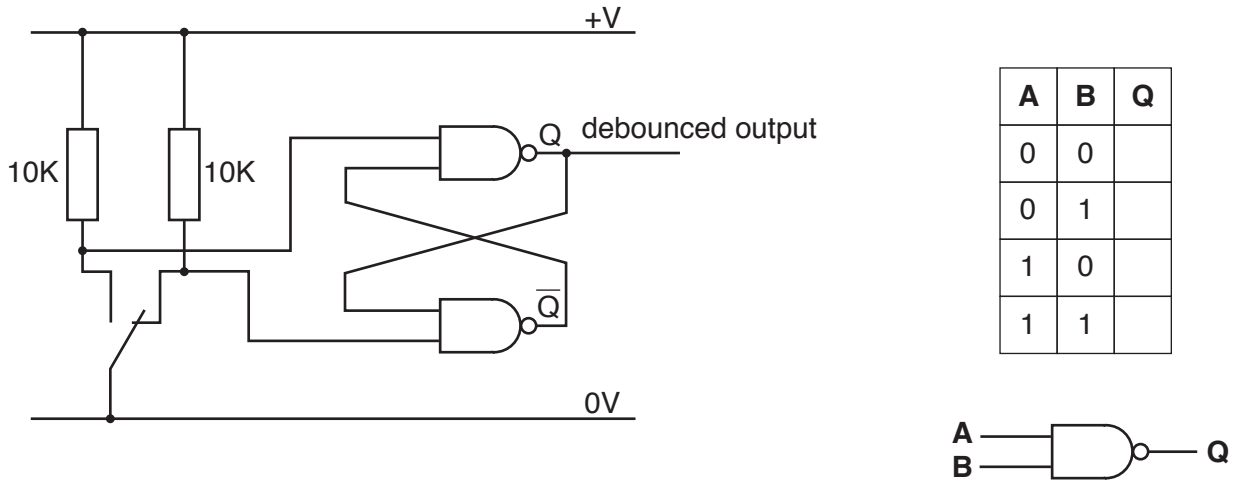
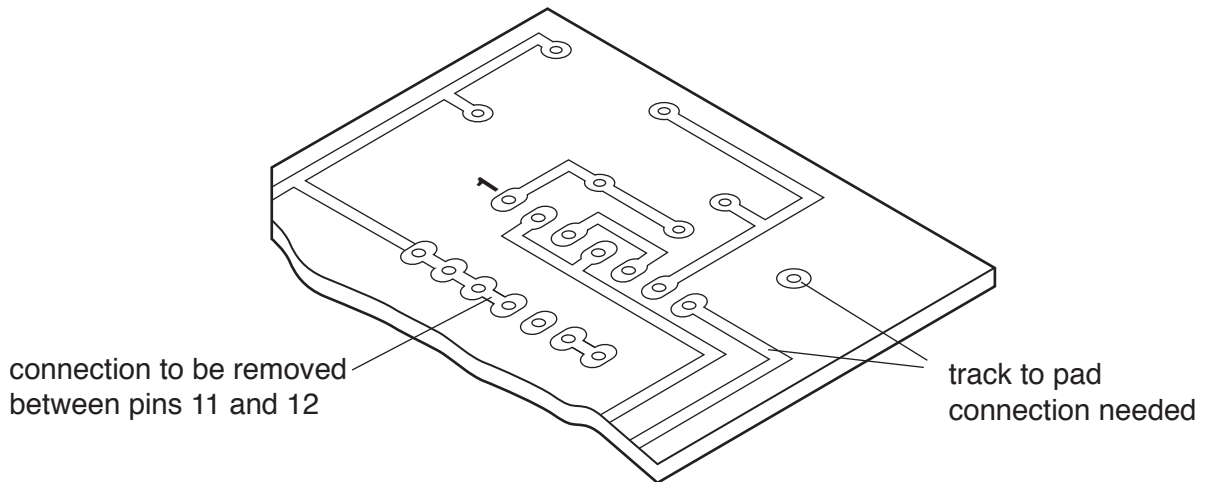

Fig. 7
Fig. 9
Fig. 7 shows the bistable circuit used to overcome the problem.
- (iv) Complete the truth table in Fig. 7 for the type of logic gate used.
- (vi) State the purpose of the 10K resistors used in the circuit in Fig. 7.
- (ii) Fig. 9 shows part of a PCB for the bistable circuit in Fig. 7 with two faults identified.